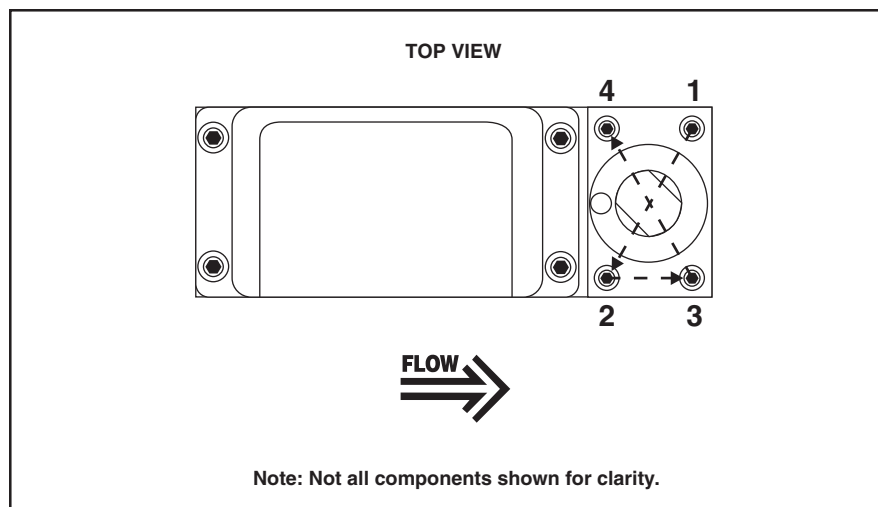

Figure 4-1 Torque Sequence for the Valve Retainer Plate (Controller)
- (Mfi Series only), press the lubricated sensor O-rings (25B) into the flow controller body. Install the sensor assembly and secure with two screws (37) and washers (38) and tighten.
- Install the orifice (33) and its O-ring (25A) using a 3/8 nut driver. Insure that the orifice is fully seated but do not overtighten.
- Place the spacers (28B) and springs (29) on the valve seat (32) in the same order as noted in Step 8 of the disassembly. Screw the valve seat (32) into the plunger (26). Tighten the assembly until there is no looseness but do not overtighten.
- Install the valve stem assembly (24), secure with the valve retaining plate (23) and four hex socket screws (22). Install O-ring (1) onto valve stem (24). When installing the screws they should first make light contact with the plate which should be checked to insure that it makes full contact around the stem assembly. Torque the screws securing the valve retaining plate in a diagonal pattern (refer to Figure 4-1) to 17 in/lbs